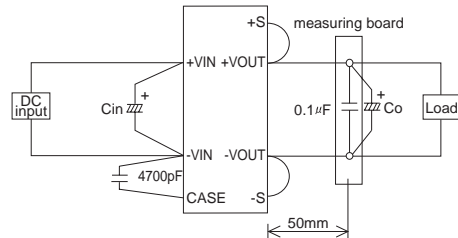

Fig.3.4 Measuring method of Ripple and Ripple Noise
■ Ripple and Ripple Noise are measured by using measuring board with recommended capacitor C_o & the film capacitor $0.1\mu F$ as shown in Fig.3.4.